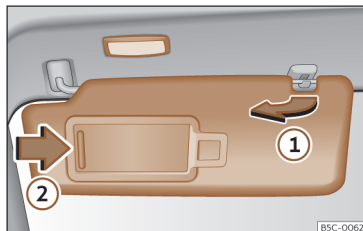

Fig. 99 Sun visor
- The sun visor can be pulled out of its mounting and turned towards the door >>> **Fig. 99** ①.